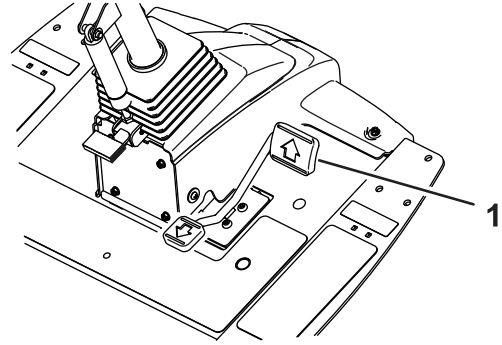
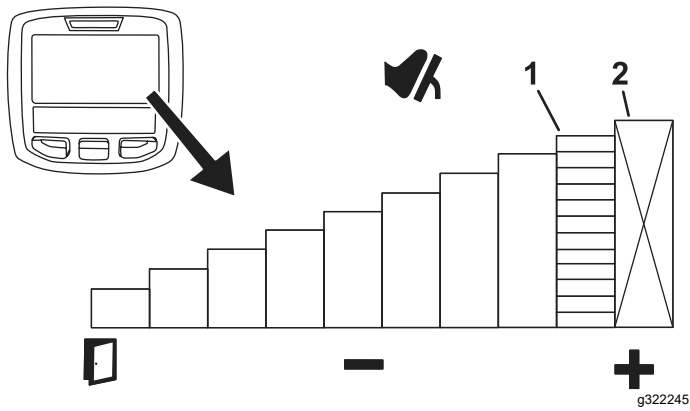

Figure 49
Figure 50
To temporarily set the maximum speed of the machine, press the traction pedal fully forward (Figure 49). You can set a separate speed for the mow range and transport range (Figure 50).
- To access this feature, select the InfoCenter middle button from the main screen (Figure 50).